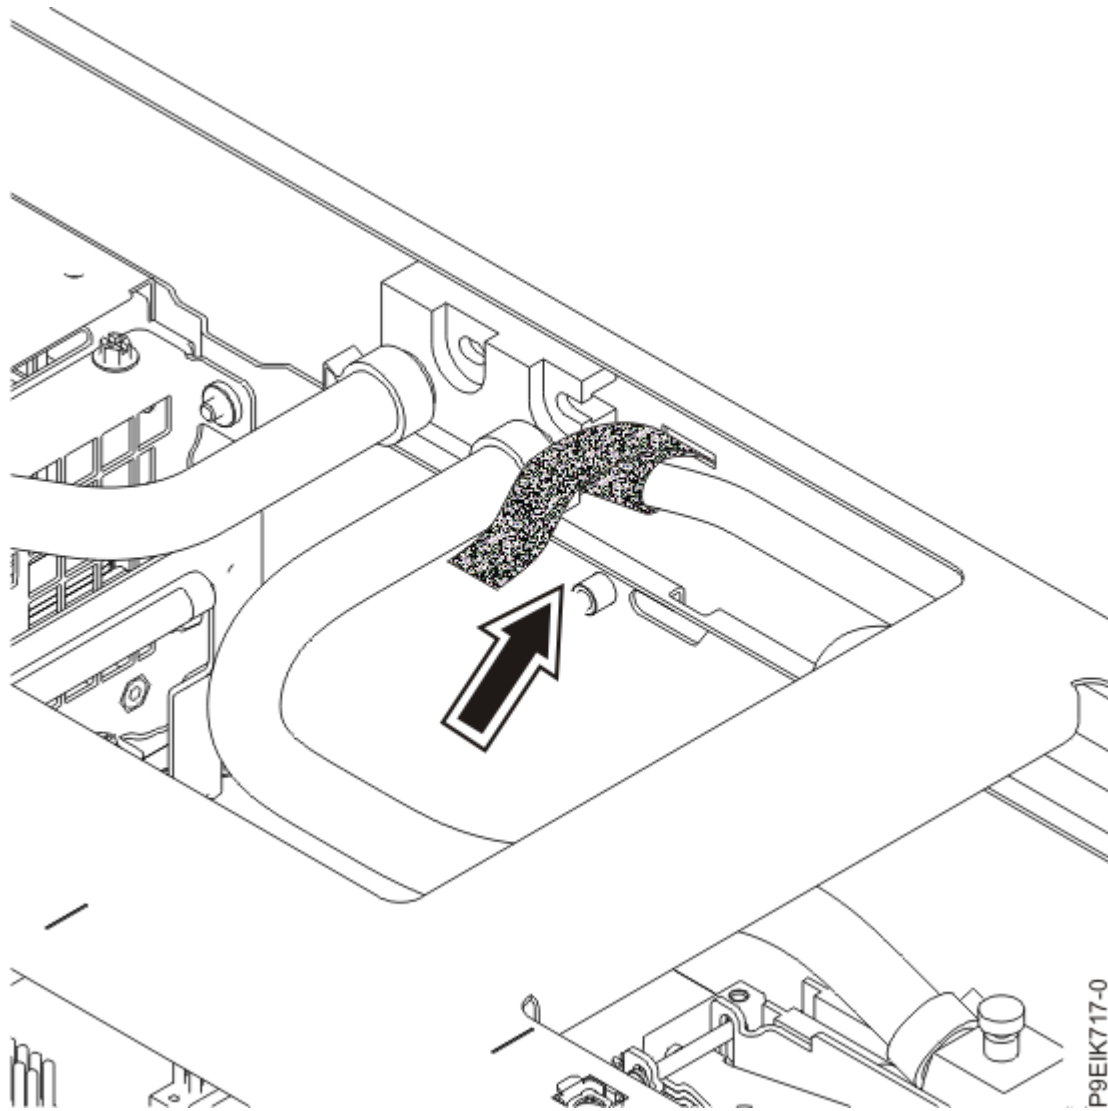

Figure 37. Securing the front of the side pipe
8. At the front of the system, lift the side pipe up. Support it on the pins and fasten the front of the side pipe to the cold plate installation carrier as shown in Figure 37 on page 40.